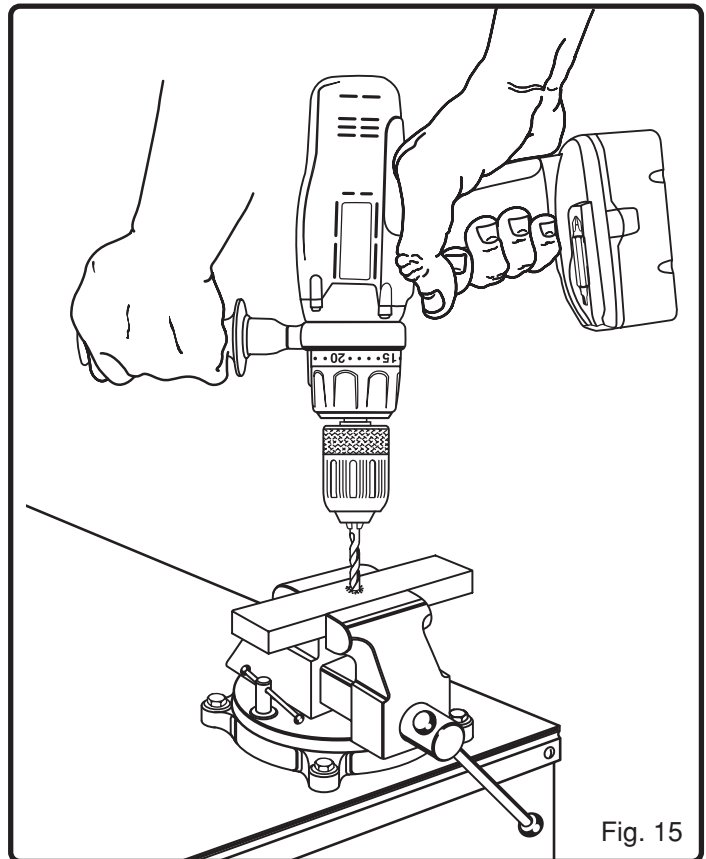

Fig. 15
See Figure 15.
- Hold the drill at a right angle as shown in figure 15. Do not force or apply side pressure to elongate the hole.